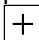

Fig. 7 Connecting heating profile
3. Connect the heating profile to the control unit according Fig. 7.